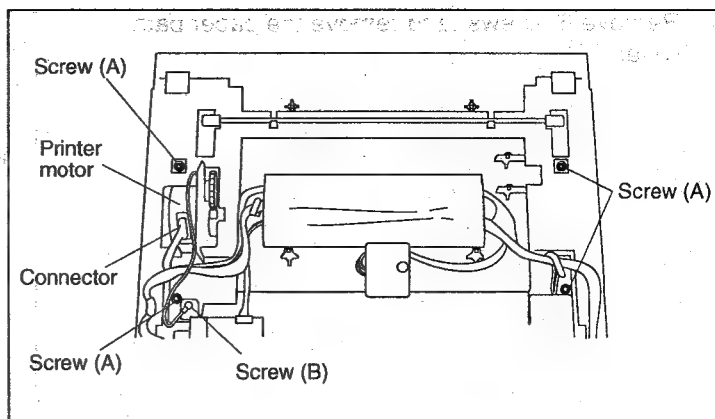

Fig. 7-47
- 3) Disconnect the connector from the printer motor shown in Fig. 7-47.
- 4) Remove 4 screws (A), and remove the 1 screw (B) from the ground harness shown in Fig. 7-47.